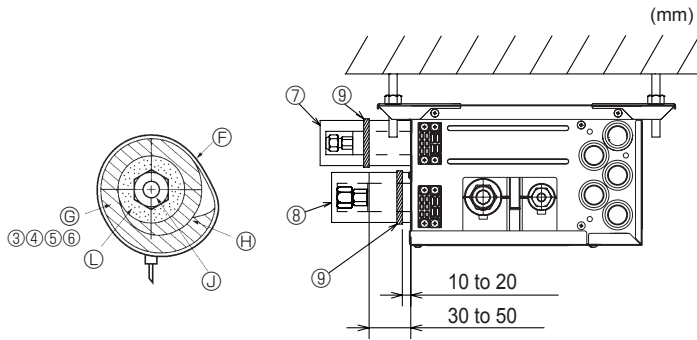
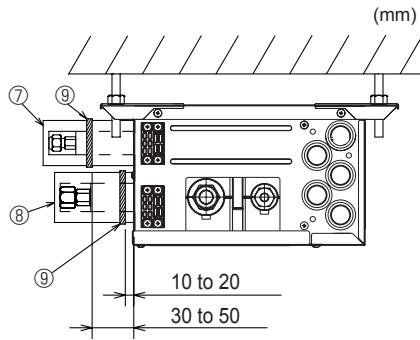

Fig. 7-3
Fig. 7-4
- (3) Connect the refrigerant piping immediately. Always tighten the flared nuts to the torque specified in the table 2 using a torque wrench and double spanner.
- (4) Press the pipe covers ③ and ⑤ on the liquid piping against the unit and wrap to hold in place. (Fig. 7-3)
- (5) Press the pipe covers ④ and ⑥ on the gas piping against the unit and wrap to hold in place. (Fig. 7-3)
- (6) Apply the supplied bands ⑨ at a position 10 - 20 mm from each end of the pipe covers (③④⑤⑥).
- (7) If the indoor unit is not connected, fit the supplied pipe covers (with caps, ⑦ and ⑧) to the branch box refrigerant piping connections against the unit to prevent condensation dripping from the pipes. (Fig. 7-4)
- (8) Clamp the pipe covers (⑦⑧) in place with the supplied bands ⑨.
- ⓕ Band ⑨
- ⓖ Pipe covers ③④⑤⑥
► Use the following procedures for indoor connection part which indoor unit is not connected. (Fig. 7-4)
- (1) In order to prevent refrigerant leaks, make sure that the flare nuts are tightened according to the specified torques* in Table 3.
- (2) In order to prevent condensation, install the pipe covers ⑦ ⑧ against the unit and fasten them with the supplied bands ⑨.